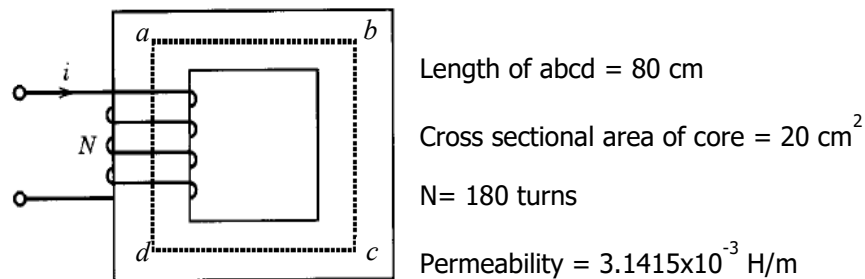

Figure Q2
- 2 1-phase 230 V 50 Hz supply is connected to the coil of Figure Q2. Use the following parameters of the core and find the current in the coil.